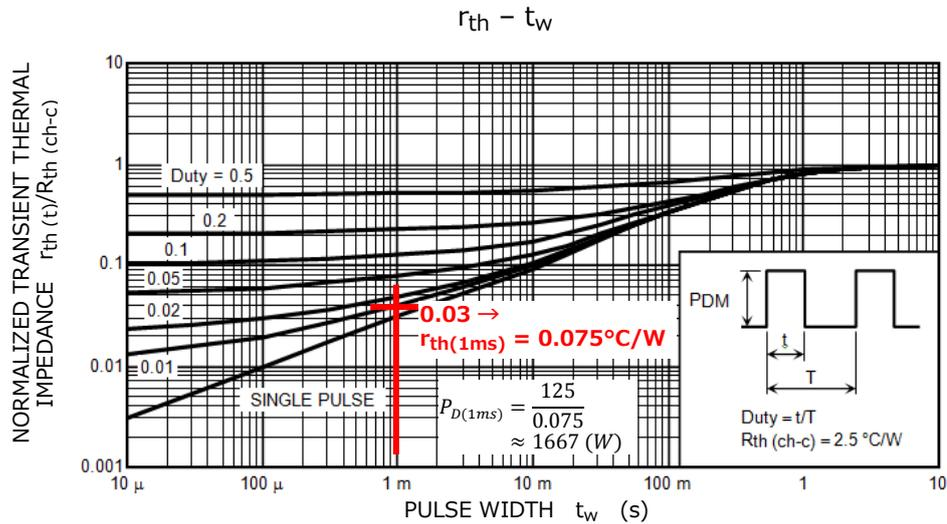

Figure 3.3 Transient thermal impedance curves
The power dissipation at $t_w = 1$ ms, $P_D(1\text{ ms})$, is calculated to be roughly 1667 W from the transient thermal impedance curves shown in Figure 3.3. The points through which the derating lines for the thermal limitation at $T_c = 100^\circ\text{C}$ (④' to ⑤') and the secondary breakdown limitation (⑤' to ⑥') pass can be calculated in the same manner as for the $T_c = 25^\circ\text{C}$ (DC operation) line.